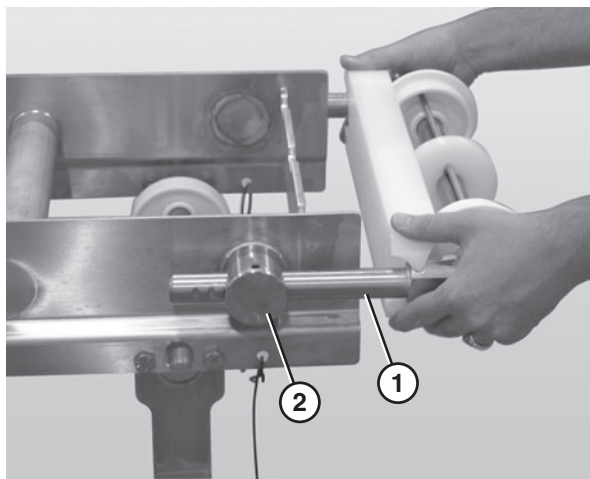

Figure 18
1. Slide the bearing shafts (**Figure 18, item 1**) into the take up blocks (**Figure 18, item 2**).